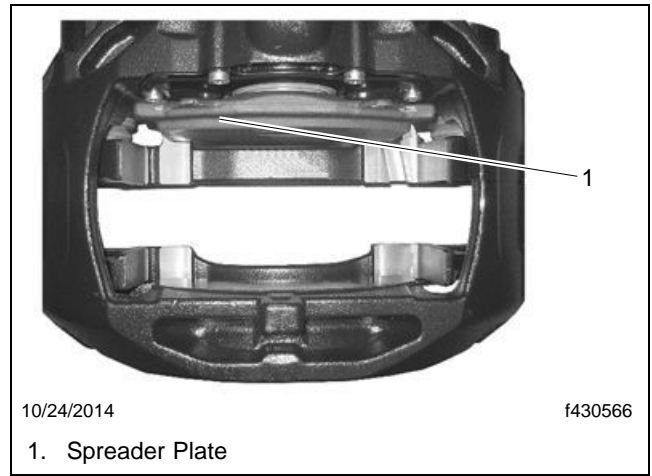

Fig. 7, Removing the Spreader Plate
29. Remove the spreader plate from the brake caliper. See **Fig. 7**.